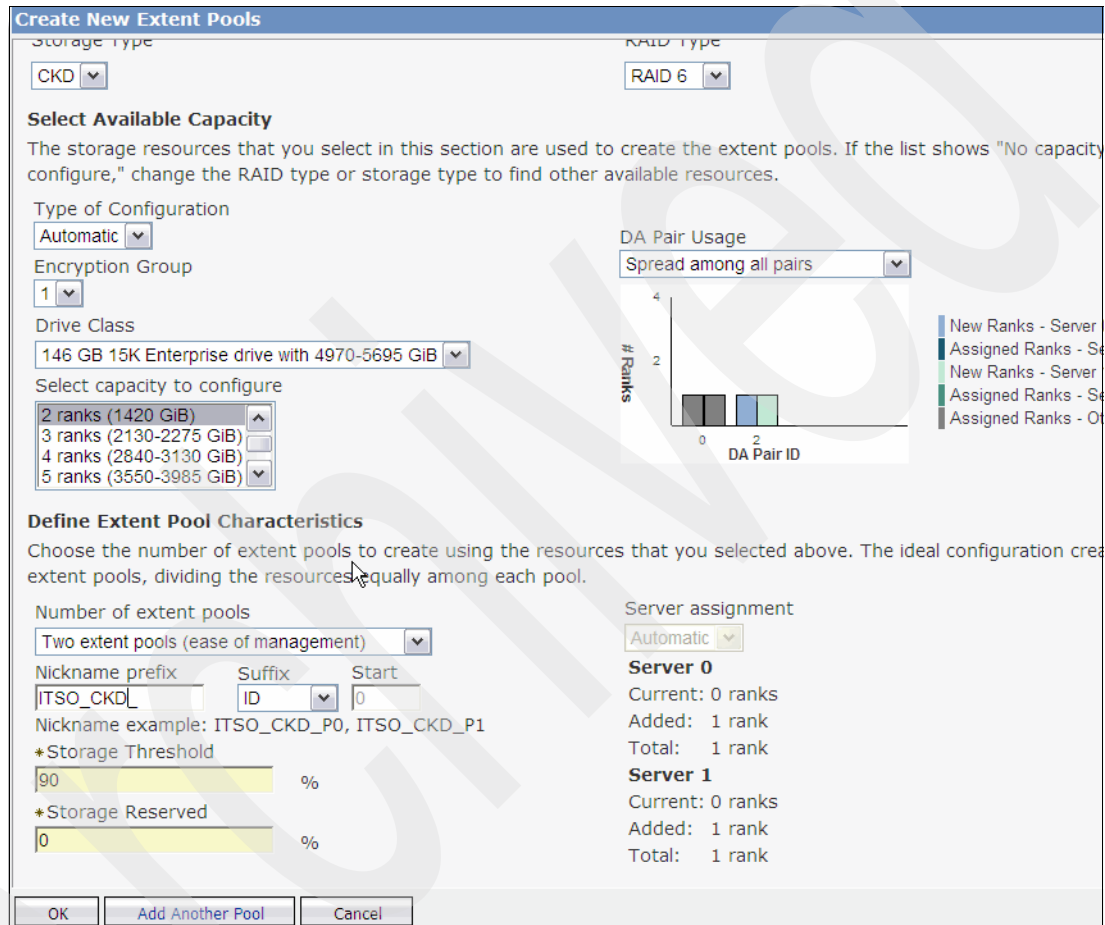

Figure 13-39 Create New Extent Pools for FB and CKD
3. If you have both the FB and CKD storage type, or you have different types of DDMs installed, you need to create more Extent Pools accordingly. In order to create all the required Extent Pools in one task, select **Add Another Pool** as many times as required. In our example (Figure 13-39), we create, for each storage type, two Extent Pools. Click **OK** to continue.